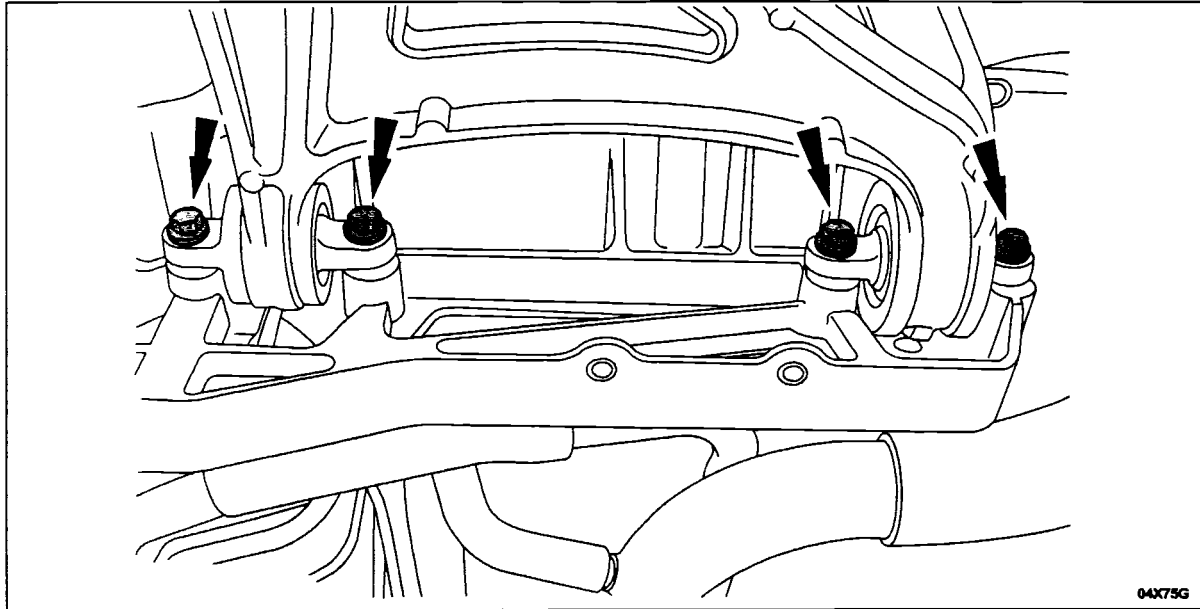

FIGURE 7
8. Remove the ABS sensor harness from the two (2) clips in the lower control arm. Remove and discard the two (2) clips.
While pushing down on the lower control arm, remove the two (2) inner lower control arm-to-frame bolts and washers. Then, release the arm and remove the two (2) outer bolts and washers and remove the lower control arm from the vehicle. See Figure 7.